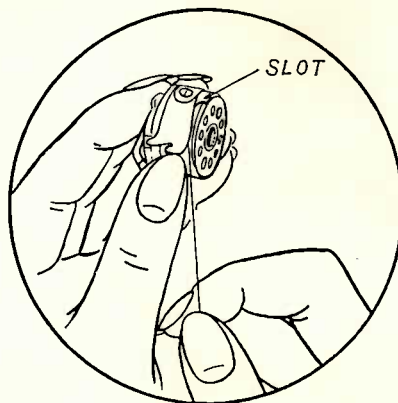
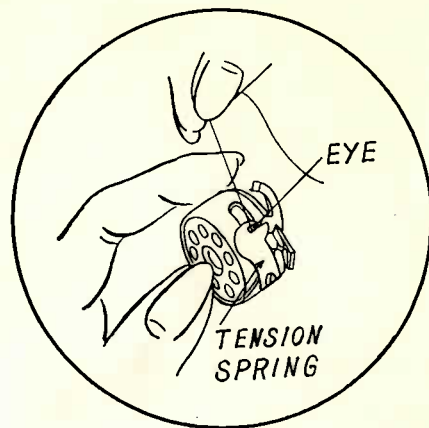

Fig. 9
Fig. 10
- 2) Grasp the thread end with your right hand, and draw it into the cross slot (Fig. 9).
- 3) Then pull it through under the tension spring of the bobbin case (Fig. 9) until it enters the delivery eye (Fig. 10).